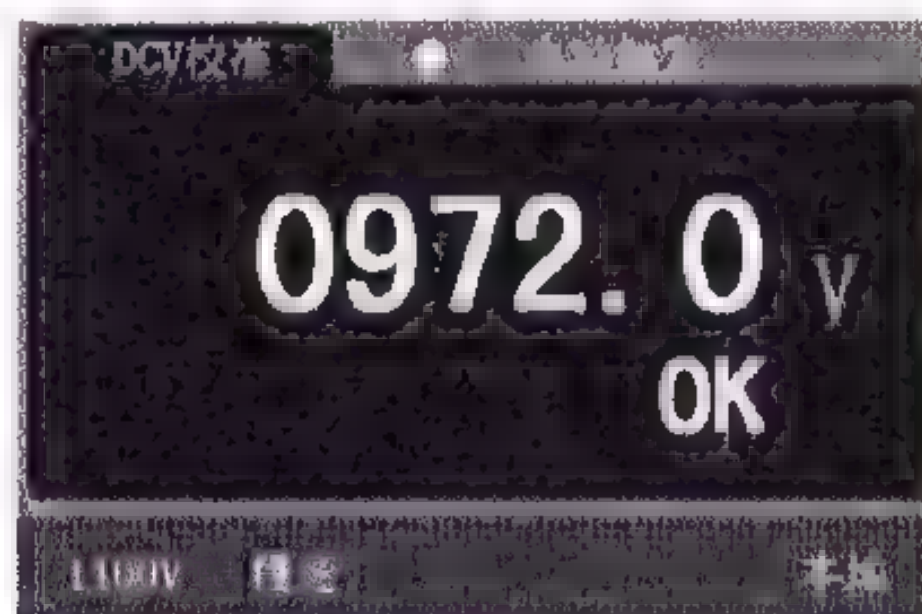

Figure 8- 2 DC voltage calibration is completed
1. Enter 0V according to the prompt of zone 3 in Figure 8- 1. Press Enter key after the measured value in area 5 is stable.
2. Enter 200V according to the prompt of zone 3 in Figure 8- 1. Press Enter key after the measured value is stable.
2. Enter 1000V according to the prompt of zone 3 in Figure 8- 1. Press Enter key after the measured value is stable.
At this point, the DC voltage calibration is completed. The calibration completion interface is shown in Figure 8- 2. At this time, you can press any of the basic function keys to exit the calibration function.